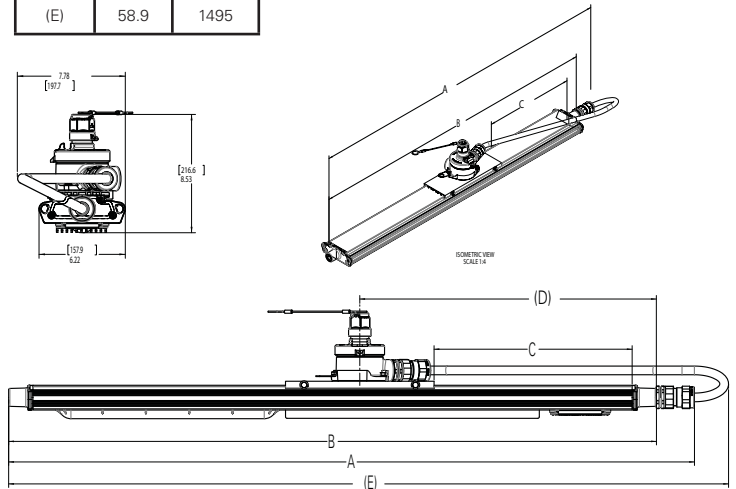

Figure 10
3. Install the slide mount bracket with junction box on the mounting flange of the fixture as shown in Figure 10. Adjust the position of the slide mount to dimension C shown in table. Note: dimension C is referenced to the end of the fixture mounting flange.
6. Install one (1) cable gland thread body to junction box and one (1) cable gland thread body to hub on driver end of fixture. Refer to IF 1647 for TMCX cable fitting installation and cable preparation instructions.
7. Form the cable approximately as shown in Figure 10.